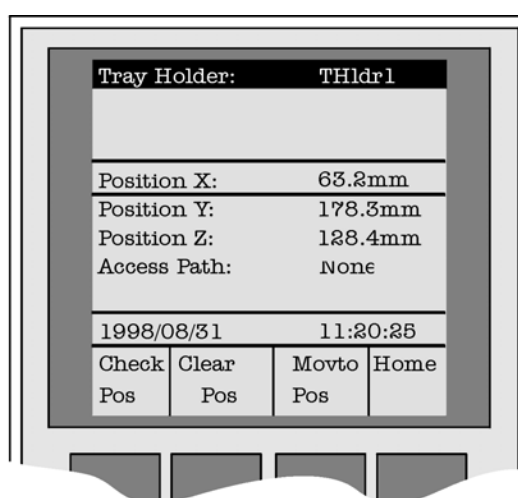

Figure 15. Menu Screen Object Trayholder
- 4 After selecting "Named Tray Holder", the **X Y Z** positions associated with the object will be displayed (see Figure 15).